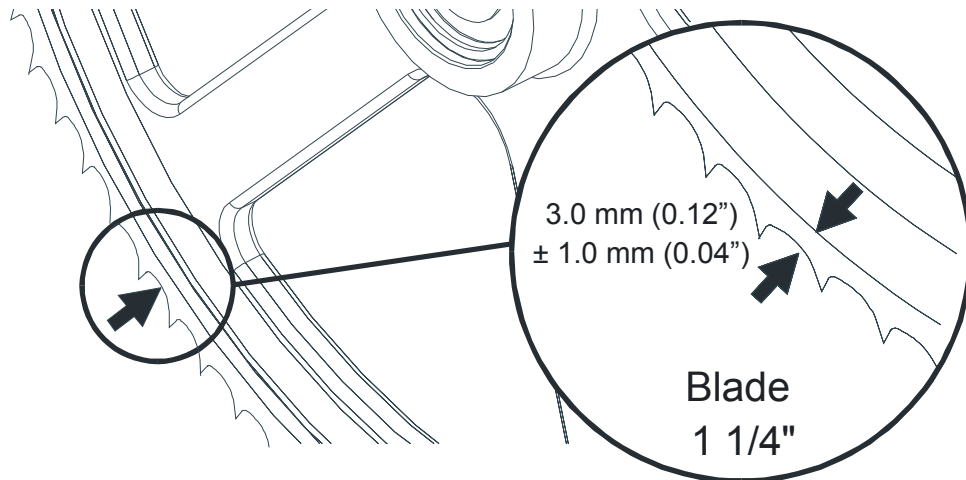

FIG. 2-6
**See Figure 2-6.** 1 1/4" wide blades should be placed on the blade wheels so that the gullet is 1/8" (3.0 mm) out from the front edge of the wheel.